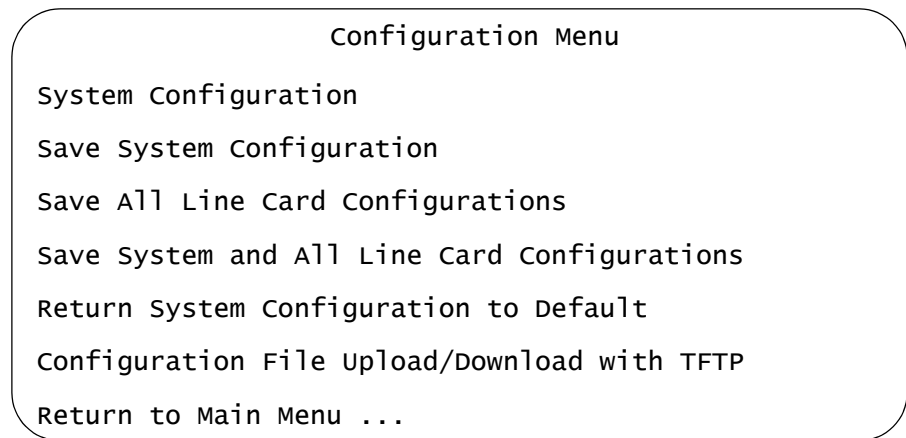

Figure 20. Configuration Menu
1. From the Main Menu, select **Configuration** to display the Configuration Menu shown in Figure 20.
1. From the Main Menu, select **Configuration** to display the Configuration Menu shown in Figure 20 on page 80.